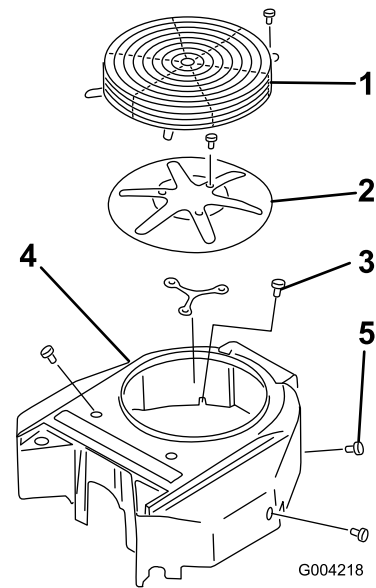

Figure 66
Before each use remove any build-up of grass, dirt or other debris from the engine screen. This will help insure adequate cooling and correct engine speed and will reduce the possibility of overheating and mechanical damage to the engine (Figure 66).
3. Remove the air intake screen, recoil starter and fan housing (Figure 66).
5. Install air intake screen, recoil starter and fan housing (Figure 66).